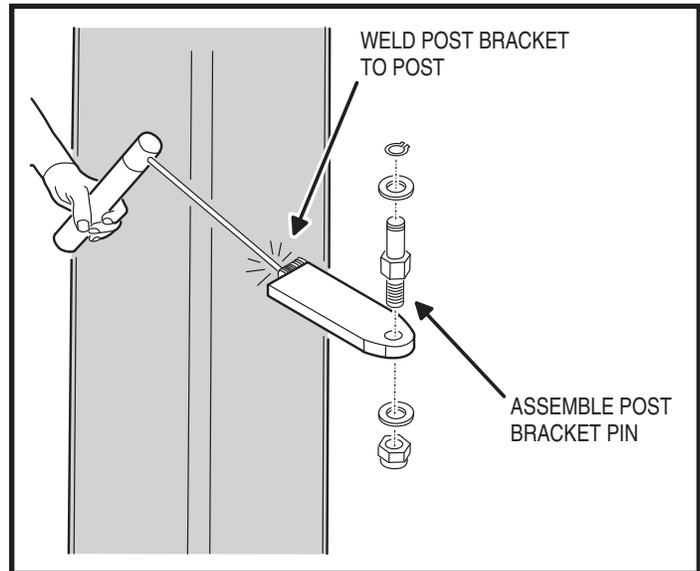

Figure 3. Post Bracket Installation
3. After the welding is completed and the post bracket has cooled, install the post bracket pin as shown in Figure 3.